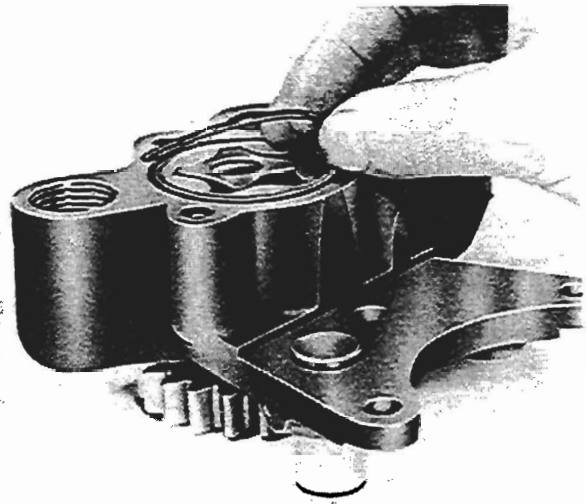

Fig. M8
4. Remove rubber sealing ring – where fitted (see fig. M8).